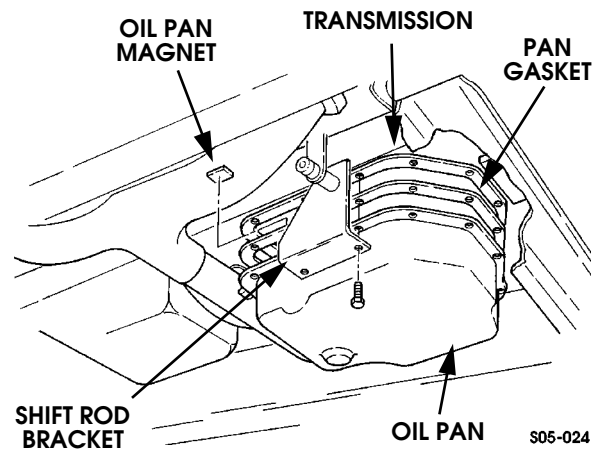

Figure 5-24: Oil Pan Removal/Installation
5. Move shift rod bracket aside and remove pan gasket, and oil pan (Figure 5-24). Pan gasket is reusable.